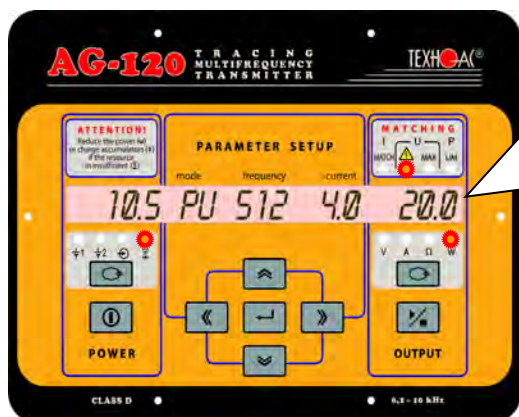

Fig. 11.14
If there are several closely located buried utilities it is recommended to use the transmitting clamp figure 11.14 to induce the current specifically in one of them contact-free. The power consumed by the clamp is reverse proportional to the signal frequency if the voltage is constant. It is not recommended to apply the power more than 60W in the continuous generation mode (CO).